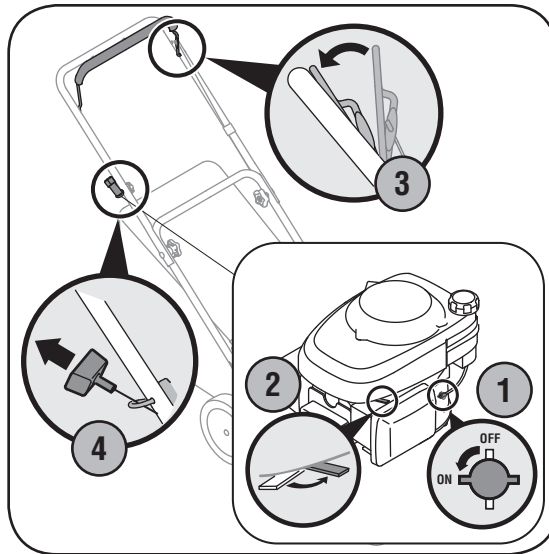

Figure 4-2: Starting the mower.
1. Place the fuel valve lever found on the left side of the engine into the ON (OPEN) position, Figure 4-2.
3. Standing behind the mower, squeeze the blade control against upper handle, Figure 4-2. The choke will now begin to slowly return to the off choke position after activating the blade control. Therefore, quickly move onto step four below.
4. Holding these two handles together firmly, grasp recoil starter handle and pull rope out with a rapid, continuous, full arm stroke, Figure 4-2. Keeping a firm grip on the starter handle let the rope rewind slowly. Repeat until engine cranks. Let the rope rewind each time slowly.